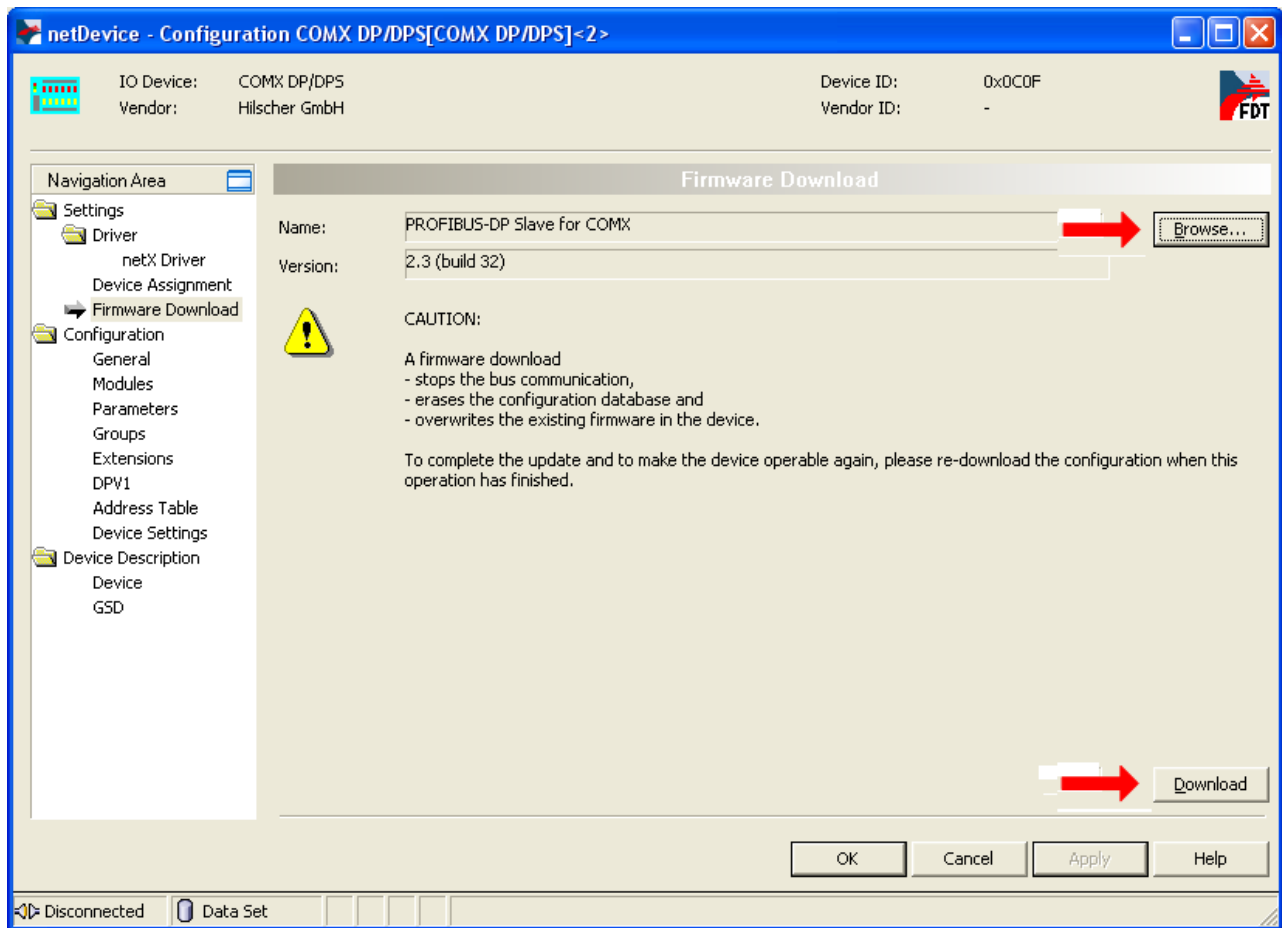

Figure 53: Firmware Download with SYCON.net (after Selection of the Firmware)
- Open a file selection dialog by clicking at the button „Select“ (Figure 53: Firmware Download with SYCON.net (after Selection of the Firmware), see ① right at the top).
- In order to start the firmware update process, click at „Load“ (Figure 53: Firmware Download with SYCON.net (after Selection of the Firmware) see ②).